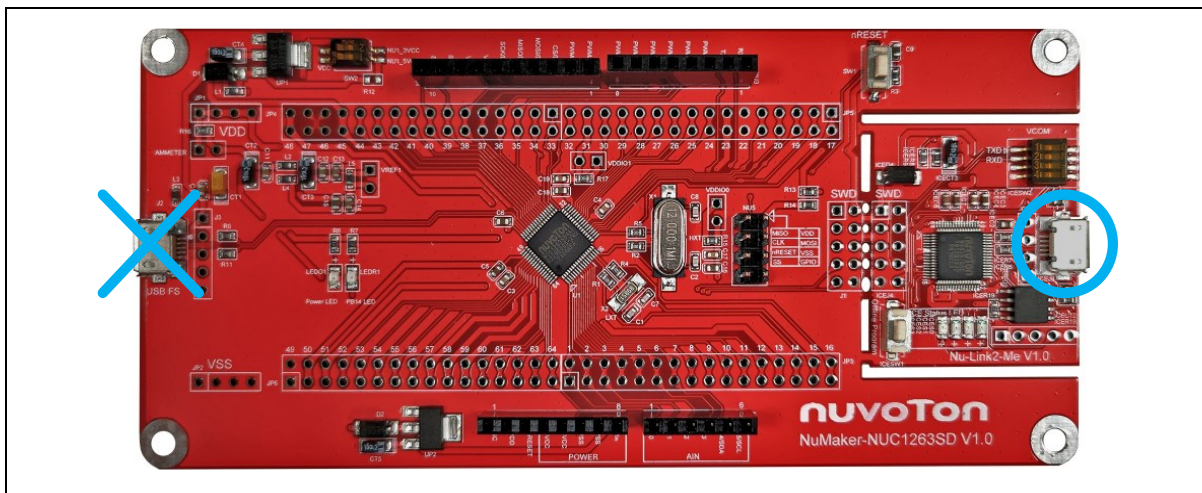

Figure 4-4 ICE USB Connector
2. Connect the ICE USB connector shown in Figure 4-4 to the PC USB port through a USB cable.